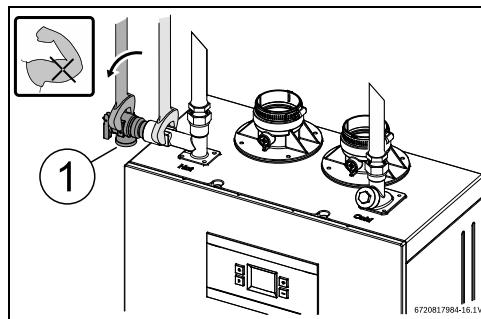

Fig. 27 Plumbing Connections (with shutoff valves) and Pressure Relief Valve
- Use the integrated port to install the PRV, see Fig. 27 [1].
- Tighten the PRV with the support of a wrench, see Fig. 27.
- Full port shutoff valves should be installed on both the cold water supply and hot water outlet lines to facilitate servicing the heater (see fig. 27).